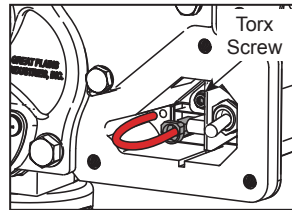

Figure 25
3. Remove the Torx head screw, then remove the switch assembly (see Figure 25).